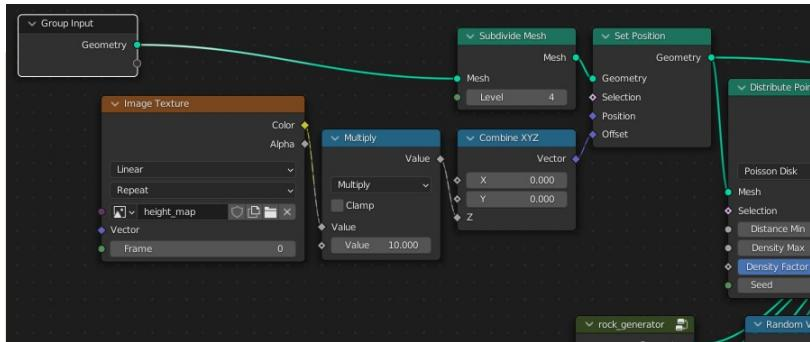

Figure 14-4 Using an Image Texture to displace a plane.
3. At this point the plane will have probably floated up above the rocks which has happened because both the distribute points on faces node as well as the final join geometry node both need to take their input from the same displaced mesh. Reconnect the nodes so they match the arrangement shown in Figure 14-4. Now it's time to paint some terrain.